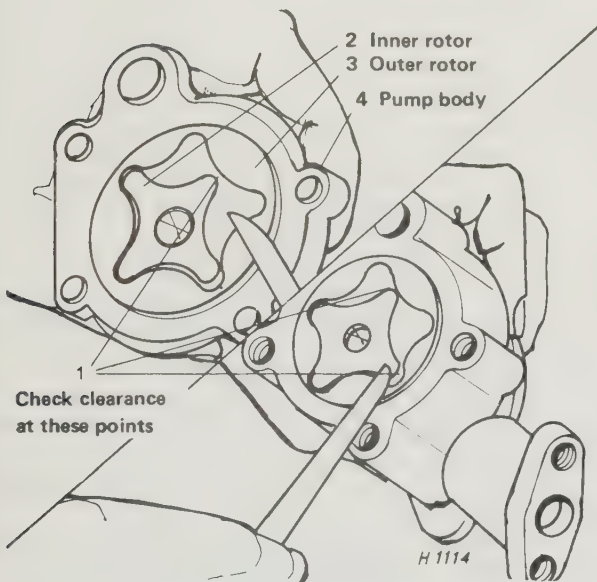

Fig. 1.54. Checking oil pump rotor clearances (Sec. 40)
- 7 The rotor lobe clearances may be checked as shown in Fig. 1.54. The clearances should not exceed 0.006 in (0.152 mm). The clearance between the outer rotor and pump body should not exceed 0.010 in (0.254 mm).